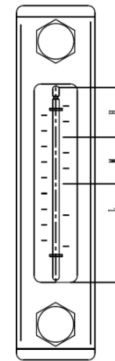

Figure 1-1 Oil Level Sight Gauge
- Examine the oil level on the hydraulic oil tank, i.e., level shall fall within the “M” range shown as Figure 1-1, and in the case of level lower than “M”, it is necessary to add hydraulic oil.